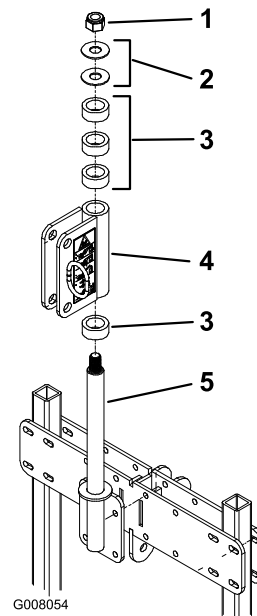

Figure 11
- Insert a pipe spacer and the pivot hitch onto the pin assembly (Figure 11).
- Insert (3) pipe spacers and (2) washers onto the pin assembly. Secure the assembly with a 1 inch locknut (Figure 11).